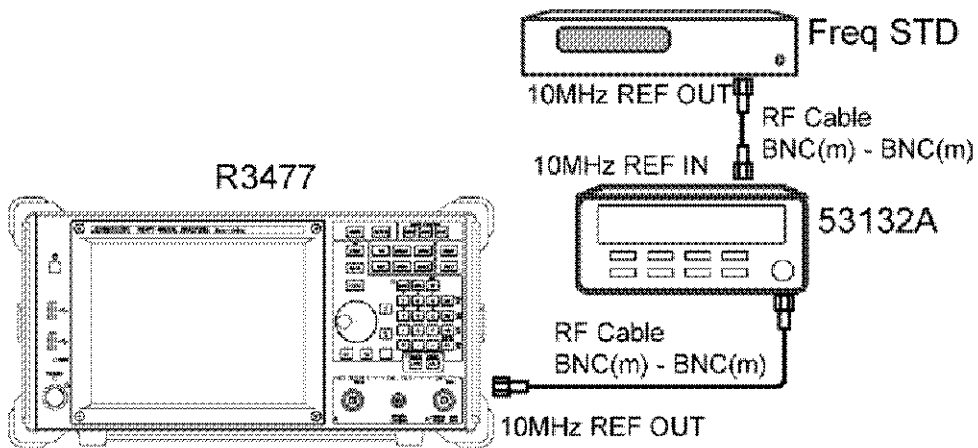

Figure 2-1 Frequency Stability Test Connection Diagram
1. Connect the instruments as shown in Figure 2-1.